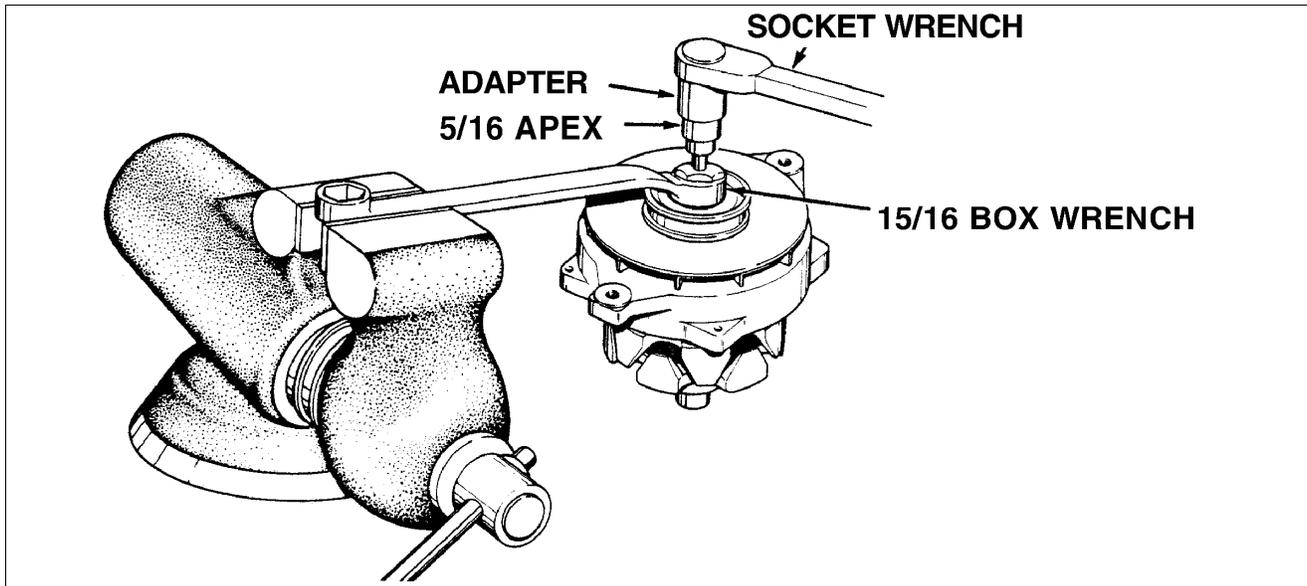

Figure 24-11. Front Housing Disassembly
- (9) Separate rotor, fan and pulley from the front housing by removing hex nut. A special tool, similar to that depicted in Figure 24-11, is required to remove nut. Remove pulley, fan and rotor.